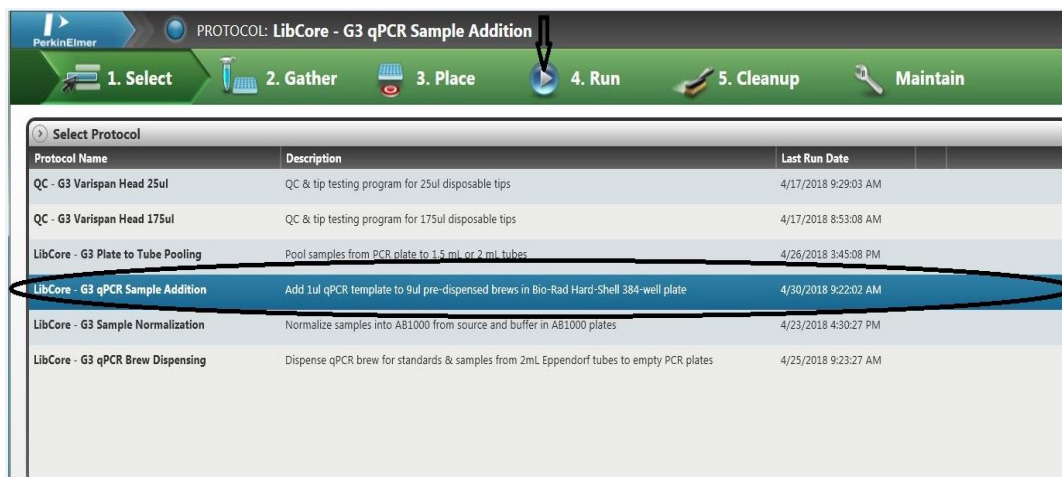

Figure 16: Selecting the protocol for qPCR sample addition
- 4.9. Once the software is initialized, select the protocol to be run (highlighted in black) i.e. "LibCore - G3 qPCR Sample Addition (see Figure 16).